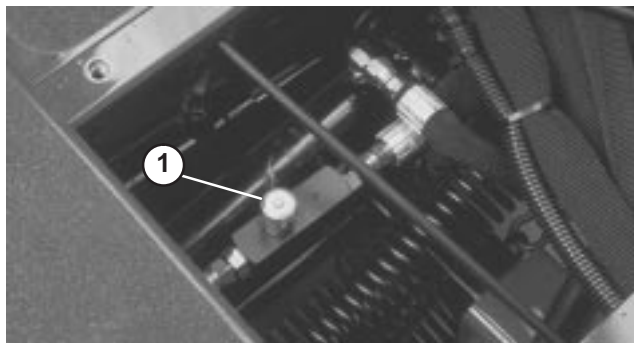

Figure 63
1. Locate valve behind access panel above operator's platform (Fig. 63).